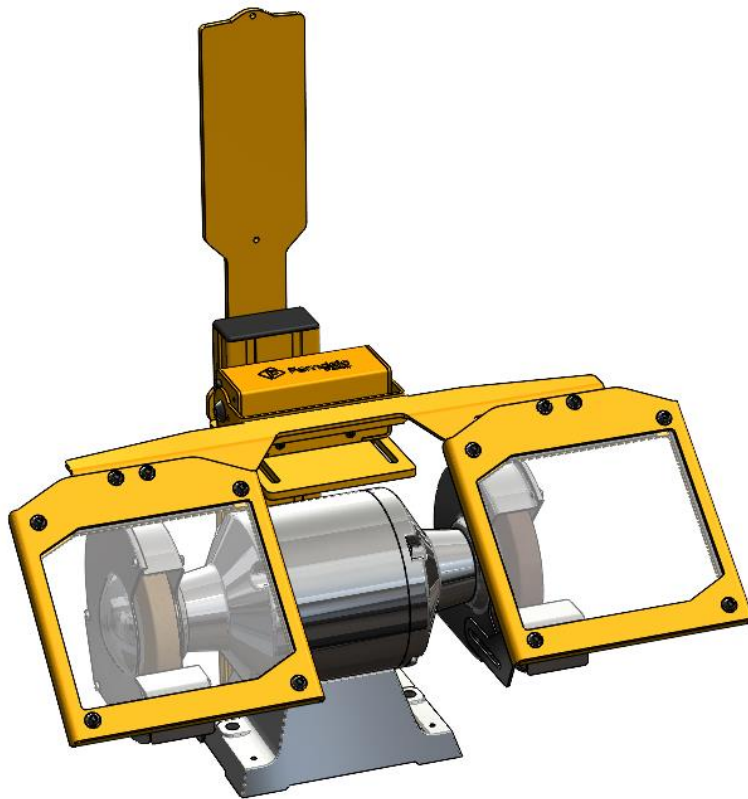

Fig. 3
4. Mount the two shields onto the Screen mounting bracket. The center of each screen should be aligned with the grinder wheel. (Fig 3.)